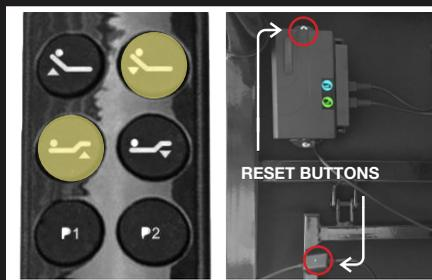

Figure 5
If the adjustable bed does not respond to the remote, synchronize (A) Wireless Remote with (B) Control Box. First find (B) Control Box mounted in the mid-section of the bed frame. Press the HEAD DOWN and FOOT UP buttons simultaneously on (A) Wireless Remote, then press the RESET button on the side of (B) Control Box or the control box extension cord. (See Figure 5.) You will hear some quick beeping sounds. The adjustable should be working after matching the remote to the control box. Press the HEAD UP button to test. The RESET button can be used for emergency flattening of the adjustable bed. Pressing the RESET button levels the bed.